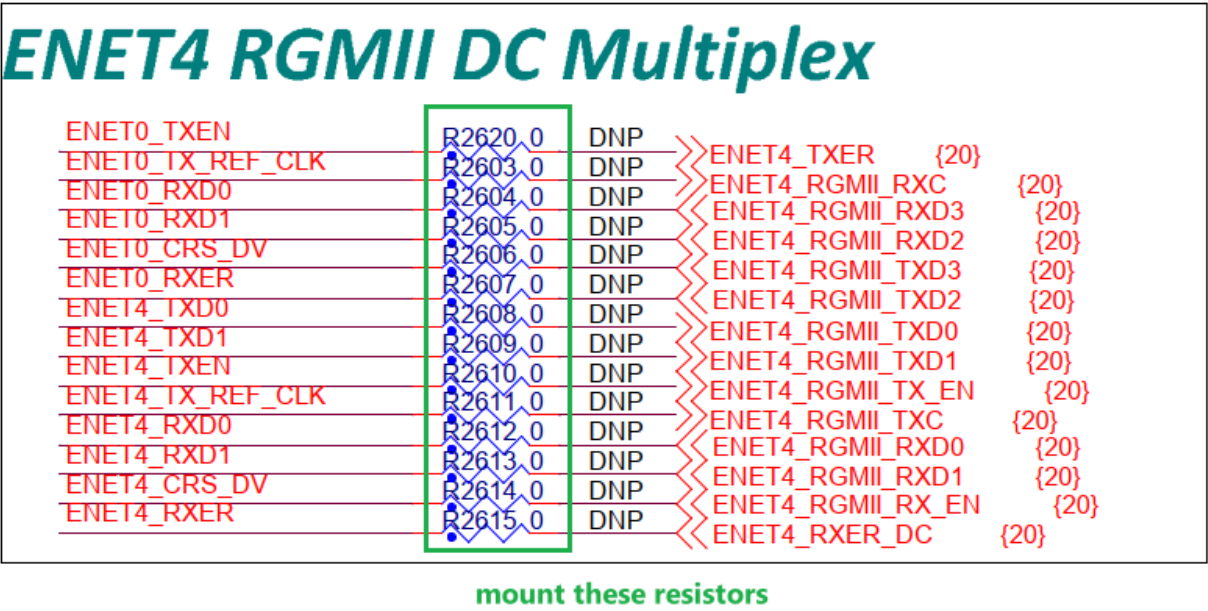

Figure 30. Step 3
- 3. Populate R2603 to R2615 and R2620 with 0 Ω resistors as shown in Figure 30.